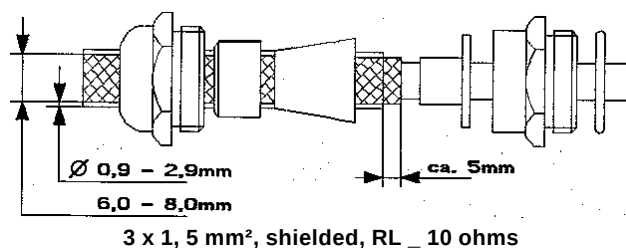

Figure 4: EMC – cable bushing
- 1.) Fit the EMC cable bushing (PG 13.5) shown in Fig. 4 to one end of the cable.